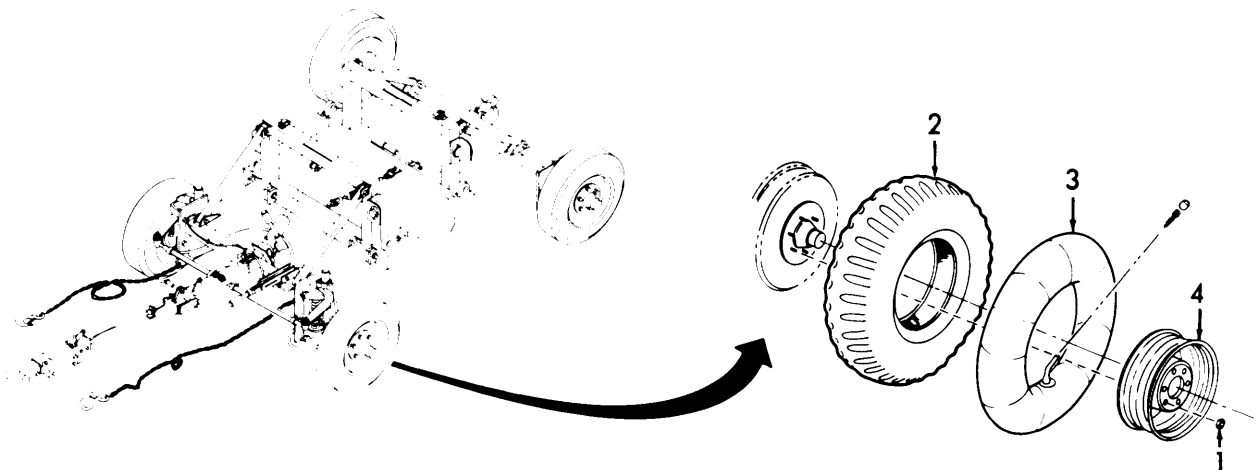

Figure 3-32. Wheel and Tire, Removal and Installation.
- (1) Block wheels and jack up transporter assembly.
- (2) Remove six nuts (1, Figure 3-32) and wheel assembly.
- (3) Deflate tire and remove tire (2) and tube (3) from wheel (4).
- (1) Install tire (2, Figure 3-32) and tube (3) onto wheel (4).
- (2) Inflate tire to proper pressure.
- (3) Install wheel assembly onto transporter.
- (4) Install six nuts (1) and lower transporter to ground then remove wheel blocks.